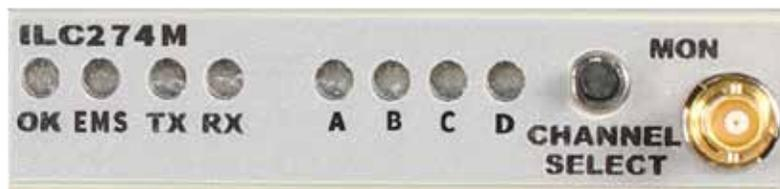

Figure 10. ILC274M Status LEDs and Monitor Connector
You monitor the operation of the ILC274 using the status LEDs and monitor port located on the front panel of the modules. The front panel of an installed ILC274 is viewed from the front panel of the IL6000 chassis as shown in Figure 10.
This section describes how to monitor the ILC274M operations using the front panel LEDs and the monitor (see Figure 10).
Table 6 describes the different states of the ILC274M status LEDs as shown in Figure 10.
1. Connect the monitor cable to the mini 75 Ohm SMB monitor jack (MON) located on the ILC274 front panel (see Figure 10).